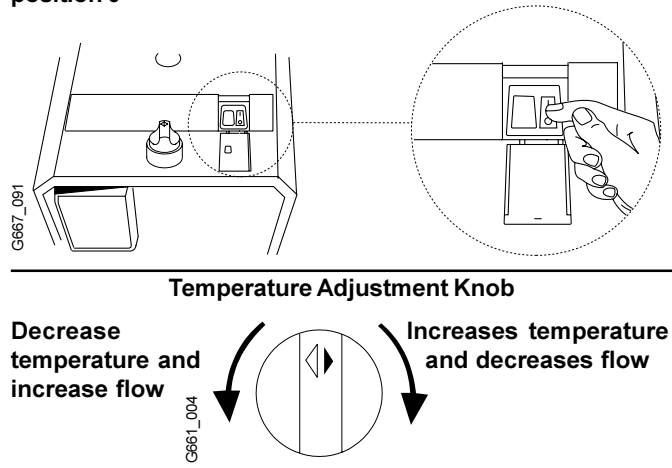

Fig. 11 - Principles of Operation
Turn off the manual lever on the gas supply line to the heater and set the ON/OFF switch to the OFF (O) position, see Fig. 11.
The On/Off switch is located behind the flipdown cover plate on the front panel strip. See fig. 11.